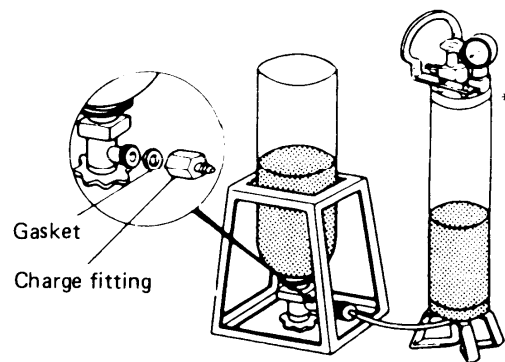

Fig. 19
* If cylinder has not yet been filled, move at least one pound of refrigerant (R22) to the charging cylinder. Fig. 19.